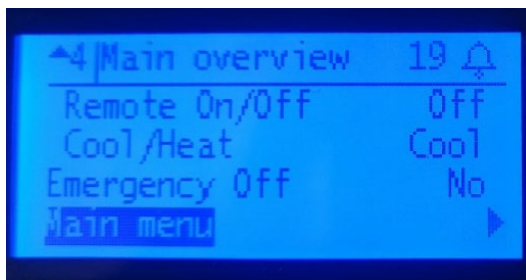

Figure no. 16
- By rotating control wheel go down and select **Main menu**. (see figure no. 16)